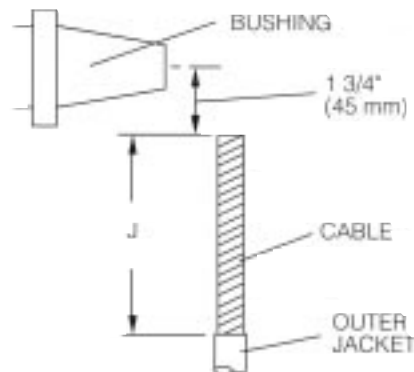

Figure 3.
- Dimension "J" is length of outer jacket to be removed for cable size. (Refer to Figure 3.) Remove outer jacket to length indicated in Table 1.